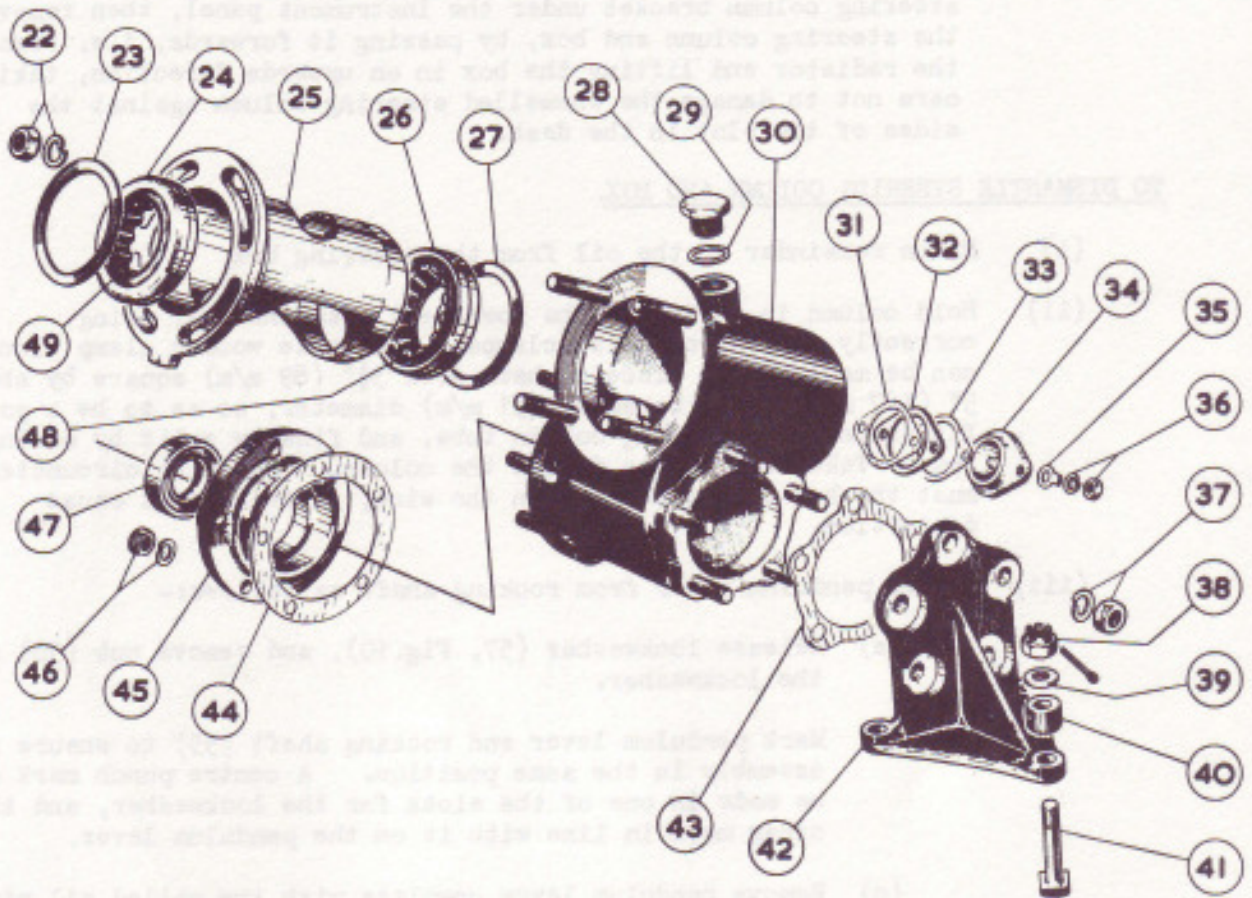
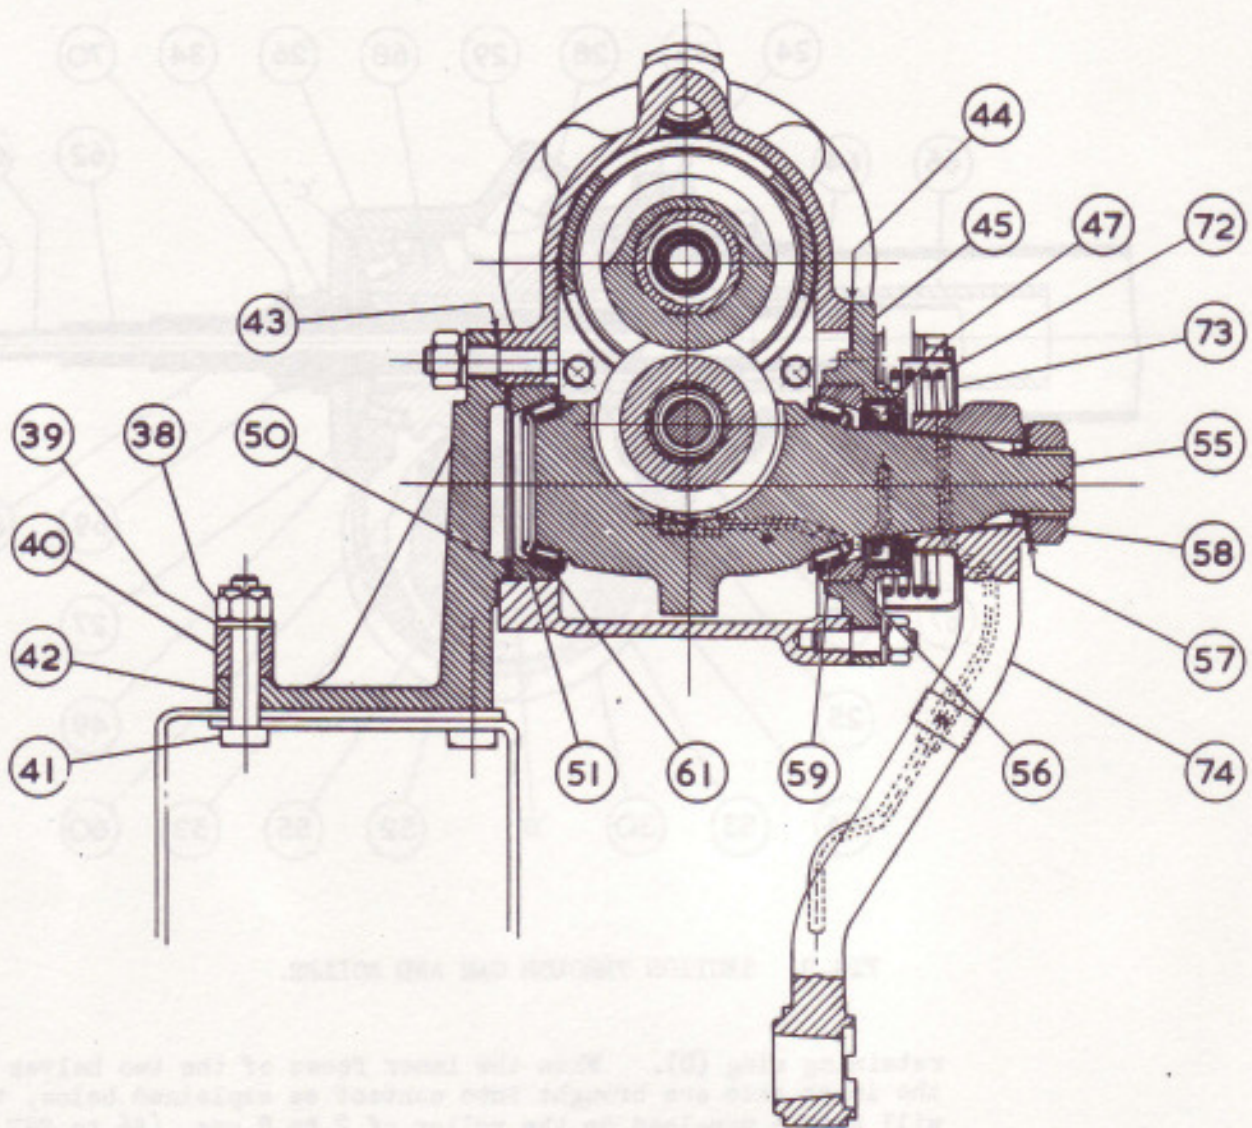

FIG. 6. "EXPLODED" VIEW OF STEERING BOX.
FIG. 10. SECTION THROUGH ROCKING SHAFT.
- (ix) Temporarily replace nut (2) on to the threaded taper piece three or four threads and give it a few sharp taps towards the steering box to loosen the stationary tube from its tapered seating in the guide (34, Fig.6), after which the nut can be removed and slipped downwards over the tubes. A receptacle should be placed at the bottom of the steering box to catch the oil which will flow from the box during the next operation.
- (a) Remove split pin and nut from taper ball pin (19, Fig.4) at the bottom of the pendulum lever and also the locating washer (20). Place the extractor (Fig.5) in position and ease taper ball pin from pendulum lever. If the steering is turned on full R.H. lock, the ball pin will probably come clear of the pendulum lever. If not, it will be easily freed when the steering box and bracket are disconnected from the frame as described in subparagraph (xvi), i.e. after the removal of the three bolts (41, Fig.6). After disconnecting side steering tube, take care not to lose the flat pressure spring (15), sealing disc (16) and mud excluder (18).
- (xvi) Disconnect steering box complete with its mounting bracket (42, Fig.6), by removing the three nuts, plain washers, distance pieces and bolts which retain bracket to the frame.
- (a) Release lockwasher (57, Fig.10), and remove nut (58) and the lockwasher.
- (b) Mark pendulum lever and rocking shaft (55) to ensure re-assembly in the same position. A centre punch mark may be made in one of the slots for the lockwasher, and the other mark in line with it on the pendulum lever.
NOTE:- Should there be evidence of an oil leakage past the oil seal (47, Fig.10) which would be indicated by the presence of oil inside the cover (73) and on the pendulum lever, or should the oil seal be found to be worn, then a new one should be fitted.
Mark cover (45, Fig.10) and steering box, by lightly centre punching, to ensure re-assembly of cover in the same position.
- (vi) Remove the remaining 2-BA nut securing stationary tube guide (34, Fig.6) to the box, carefully remove the guide by means of a small aluminium drift or screwdriver. A joint washer is fitted between the guide and the box. It may be found that an adjusting washer/s (32) and an extra joint washer is fitted between the guide and the box (as shown in Fig.6) to control the end play of the stationary tube (64, Fig.8).
- (viii) The cam tube assembly, on removal from the box, may have withdrawn with it the adjusting sleeve (25, Fig.6), if so, the latter should be removed by gently tapping it on its upper face (as the adjusting sleeve is made of aluminium, care must be taken not to damage it) until the upper bearing cup (24) of the taper roller bearing is clear of the sleeve. Collect the lower adjusting washer/s (27) from the box.
- (i) Place one of the two roller and cage assemblies (59 or 61, Fig.10) on to the bearing cup (51), the bearing cup having been left in position in the steering box.
- (iii) Place the other roller and cage assembly on the rocking shaft and fit a new joint washer (44) to the cover (45).
- (iv) Should there have been evidence of an oil leakage past the oil seal (47) during the dismantling operations, or, should the oil seal be found to be worn, then fit a new oil seal to the cover. The seal must be fitted with the tip pointing towards the steering box as shown in Fig.10.
- (v) Carefully place the cover complete with bearing cup (56) and oil seal over the splined end of the rocking shaft (taking care not to damage the tip of the seal while entering it on to the shaft), ascertaining that the centre punch marking on the cover and box are in line. Fit a spring washer to the three short studs and temporary additional washers to the two long studs, and progressively tighten up the nuts to secure.
- (vii) For checking the various pre-loads, a support will be required for the steering box, this should consist of a 6" (152 m/m) length of angle iron not less than $3\frac{1}{2}$ " x $3\frac{1}{2}$ " (89 m/m x 89 m/m) section and drilled to the same centres as the three frame bolt holes in the steering box mounting bracket (42, Fig.6). It will be preferable to drill the three holes in the angular support a little larger in diameter than those in the steering box mounting bracket. It is most important that the bracket is not used as a jig for drilling purposes because the holes in the bracket are reamed in order to be a good fit on the three retaining bolts (41).
- (viii) Mark the mounting bracket (42, Fig.6) and steering box for re-assembly purposes, then remove the five nuts and washers (37), which retain the bracket to the box. Remove bracket, joint washer (43) and adjusting washer/s (50, Fig.10).
Place adjusting washer/s against the outer face of the bearing cup (51, Fig.10). Fit a new joint washer (43) and refit the bracket (42) to the steering box with the marking on the bracket and box in line with each other. Refit the spring washers and progressively tighten up the five nuts to secure. Check the pre-load at the end of the pendulum lever as previously described.
Remove the pendulum lever, the cover (45, Fig.10), taking care not to damage the new joint washer (44), as this washer must be retained so as not to upset the pre-load. Remove the rocking shaft from the box. The next operation is to centralise the cam with respect to the rocking shaft as described in the following paragraph:-
- (v) Temporarily refit the rocking shaft to the steering box as previously described, and secure in position by refitting the cover (45, Fig.10) securing the latter with the five retaining nuts and washers as necessary.
- (ii) With the coiled lubricating pipe and its protection cover in position on the pendulum lever, fit the lever to the rocking shaft in the same angular position as originally fitted, i.e. with the centre punch mark on the lever in line with the mark on one of the two slots in the rocking shaft. Place a new lockwasher (57, Fig.10) on the shaft, securely tighten the nut (58) and bend over the tabs of the lockwasher to lock.